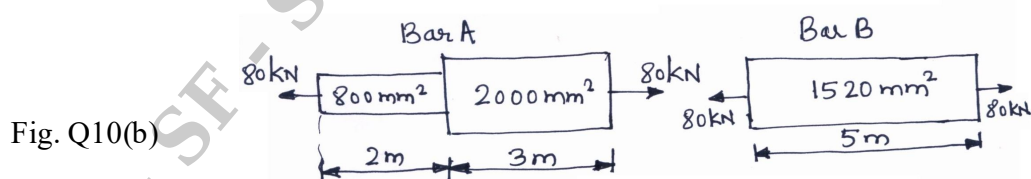

Fig. Q10(b)
b. Calculate the strain energy stored in a bar shown in Fig. Q10(b), subjected to a gradually applied axial load of 80kN. Compare this value with what obtained in uniform bar of same length and having the same volume, when subjected to the same load.  $E = 2 \times 10^5\text{N/mm}^2$ . **(10 Marks)**